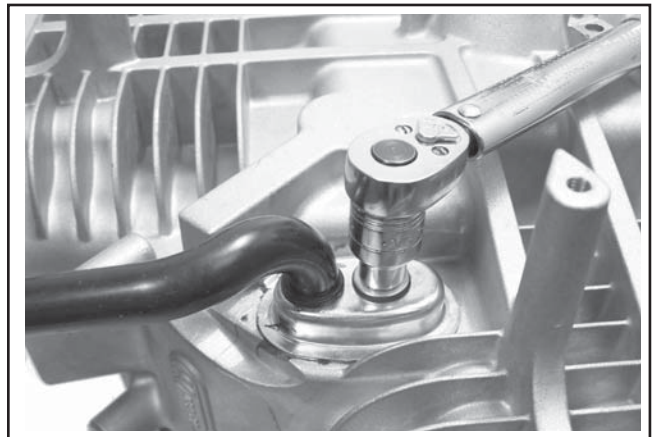

Figure 10-31. Breather Cover and Breather Hose Installation.
5. Attach the breather hose to the housing if disconnected earlier. Make sure the cover is between the formed lips of the breather hose. Position the hose so the opposite end is away from the crankshaft. See Figure 10-31.